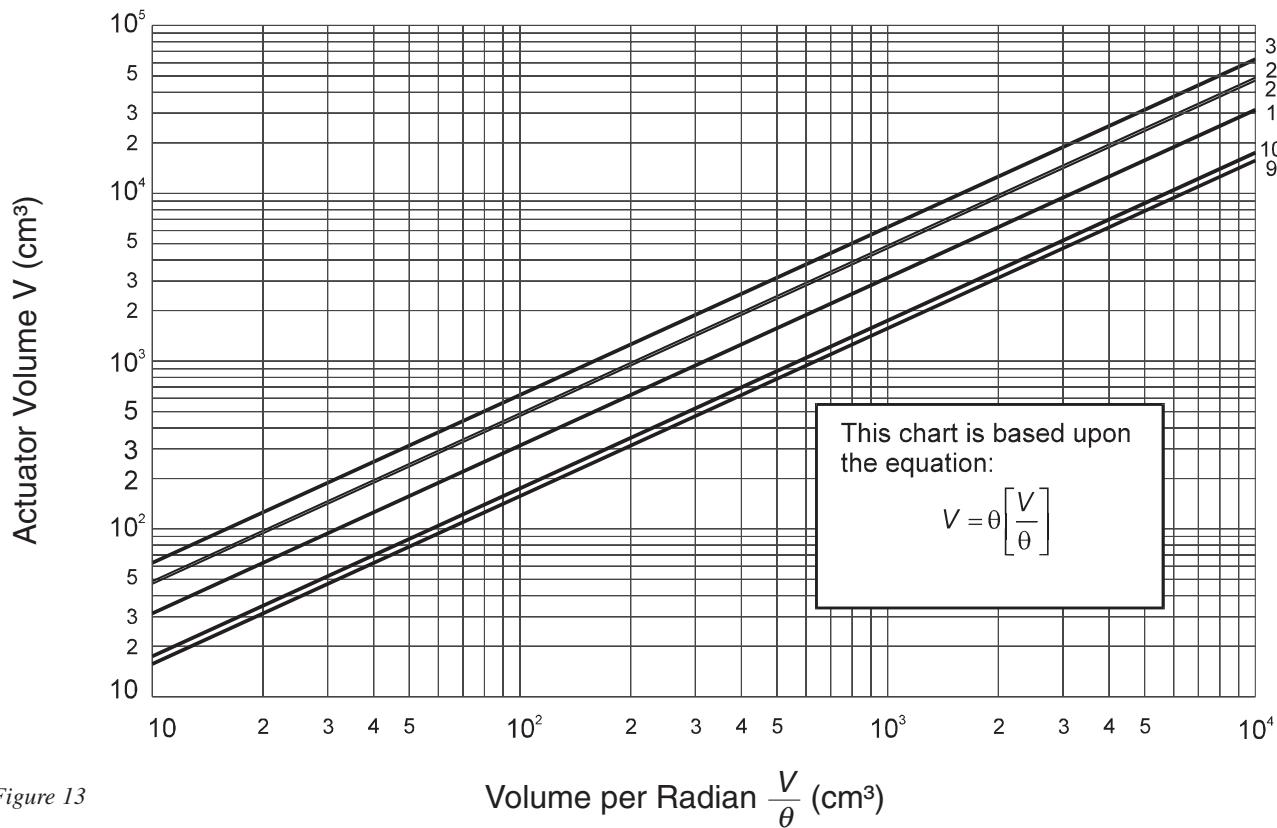
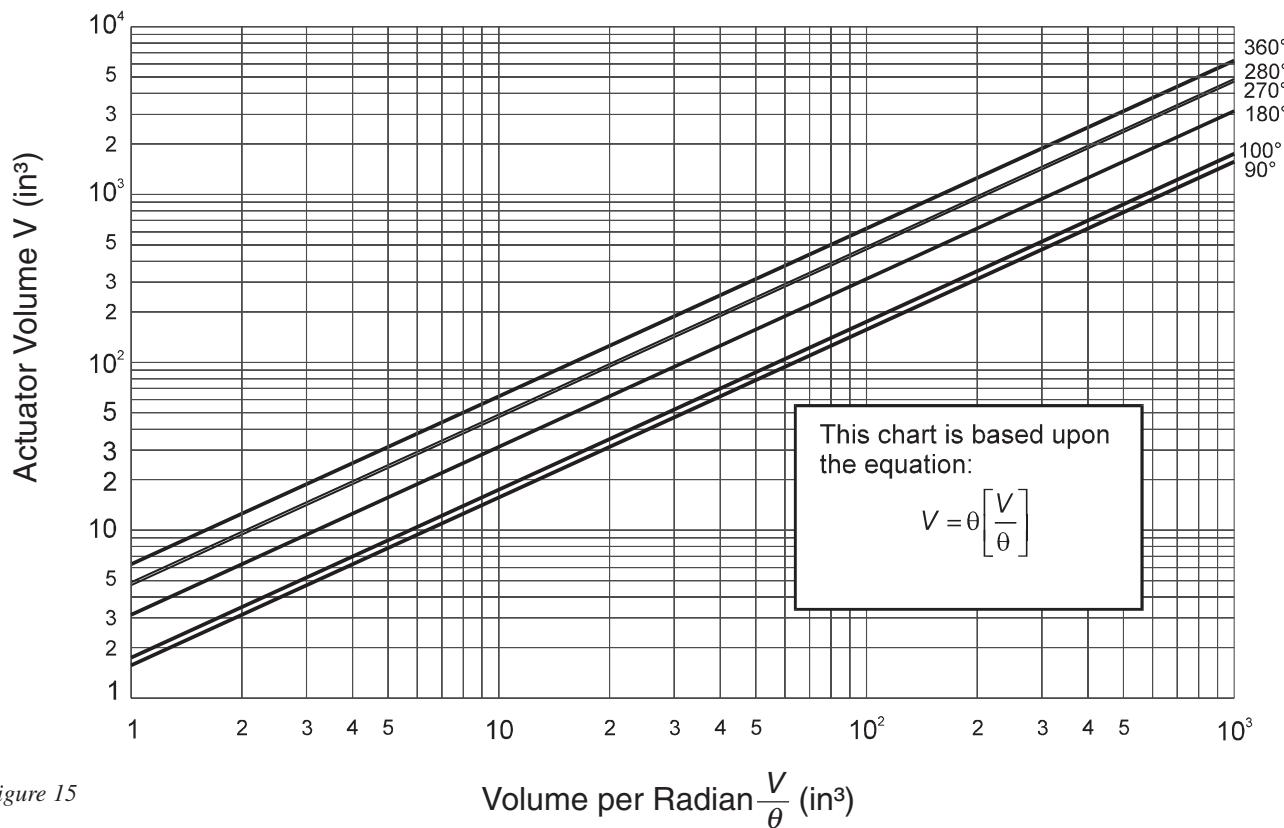

Figure 13
Figure 15
- G. Calculate the needed displacement V for the rotation you need. Use Equation 9 or Fig. 15. (Fig. 13 for S.I. units.)
G.) Calculate the displacement V for the 180° rotation. Use Equation 9 or Fig. 15.